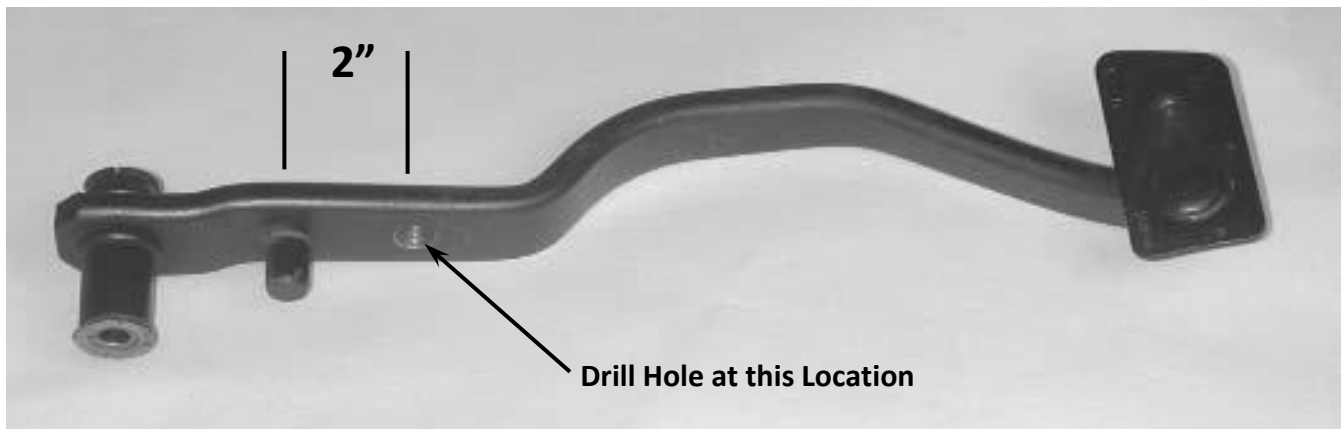

Figure 4 – Pedal Pin Hole Location
4. To obtain proper pedal ratio and geometry, it is necessary to drill a 1/2" hole below the existing pin. Measure from the center of the existing pin downward to the center of the pedal 2". At this location, center punch and drill a 1/2" hole. Figure 4 on the next page shows the proper hole location. Install the provided Pedal Pin into the drilled hole and using the provided 1/2"-20 Thin Nylon Lock Nut, tighten the Pin into place. **NOTE:** If desired, the existing pin in the pedal can be removed. With the Pedal Pin installed, the brake pedal can be re-installed into the car.